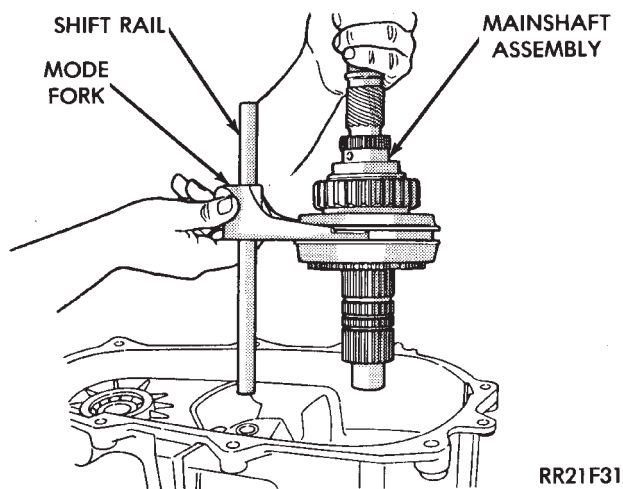

Fig. 11 Removing Mainshaft, Mode Fork And Shift Rail
(20) Remove mainshaft, mode fork and shift rail as assembly d (Fig. 11).